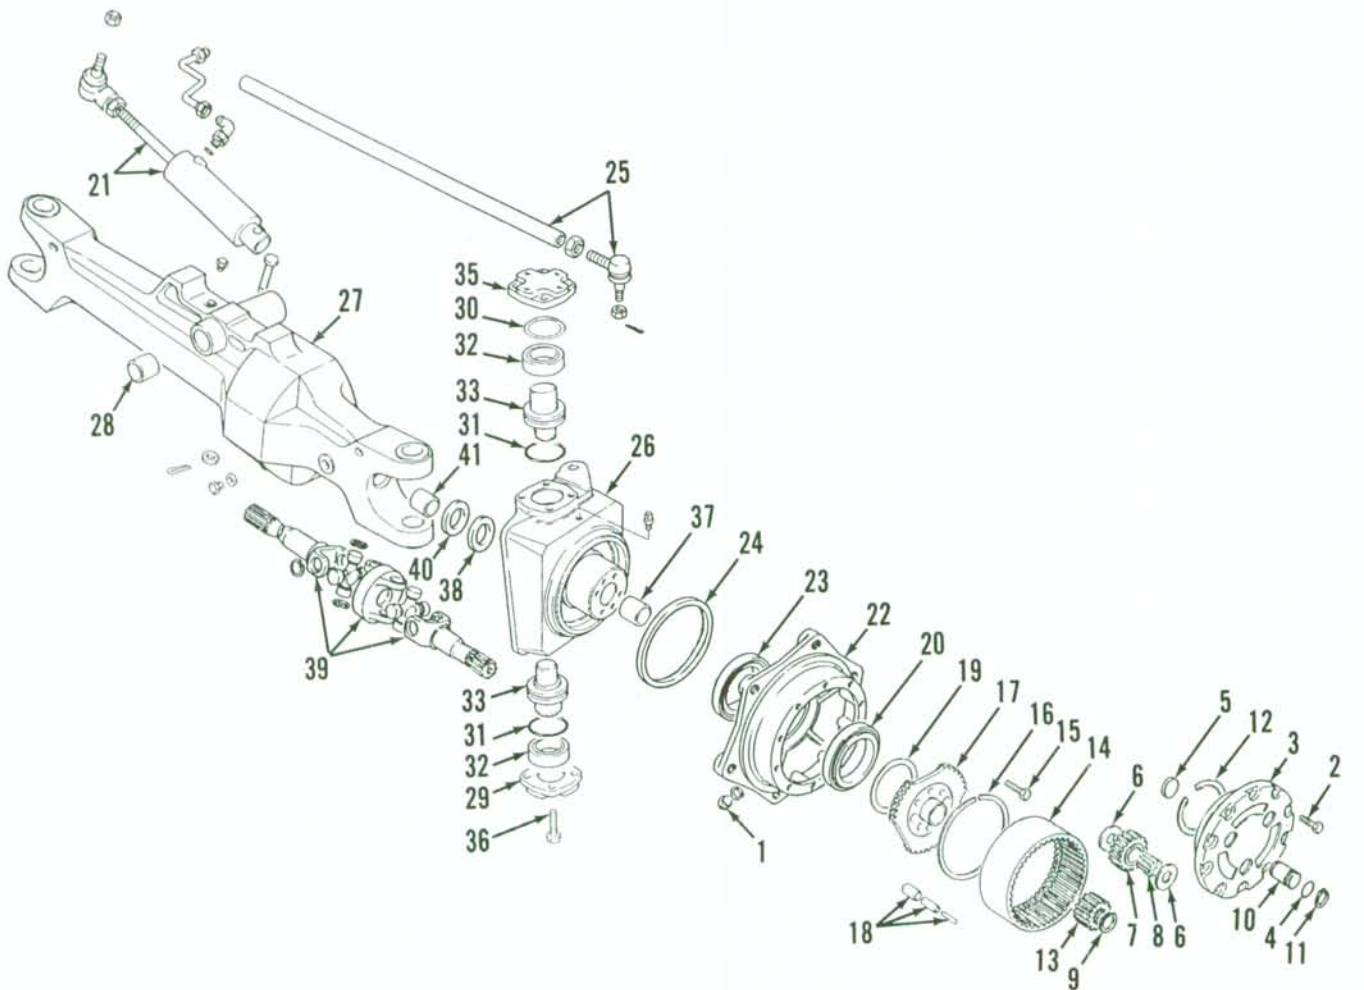
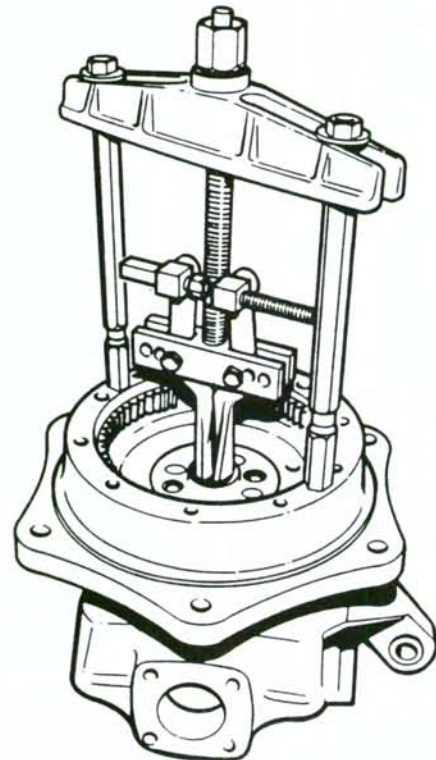
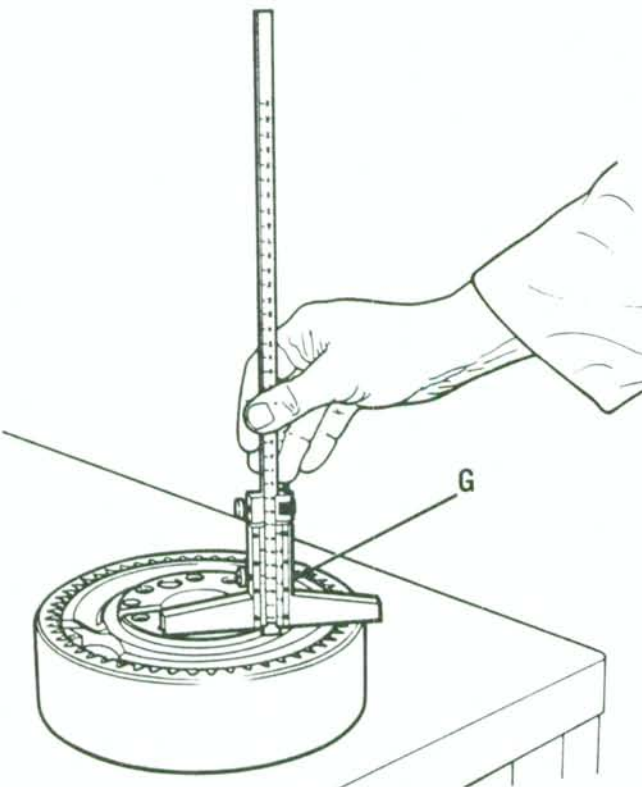

Fig. 16—Exploded view of front-wheel-drive steering knuckle and planetary assembly.
Fig. 17—View showing bearing puller attached for pulling the ring gear from steering knuckle. Refer to text.
Fig. 19—Measure standout of ring gear hub as shown when selecting shims (19—Fig. 16). Refer to text.
removing the steering knuckle housing (26—Fig. 16). However, if seal (24) or bearings (20 and 23) are to be serviced, hub (22) and knuckle housing (26) must first be removed as outlined in paragraph 12. Support front axle housing and remove front wheel. Rotate hub (22) until drain plug (1), is down, then remove plug and drain oil from hub assembly. Remove screws (2) and lift off planetary carrier (3). Remove snap ring (12), then bump shafts (10) from housing bores. Keep each planet assembly, consisting of shaft (10), gear (7), bearings (8) and thrust washers (6), separate so that they can be reinstalled as a set. The sun gear (13) can be removed after removing snap ring (9).
12. R&R AND OVERHAUL. To remove either steering knuckle housing, first remove planetary as outlined in paragraph 11. Remove snap ring (9—Fig. 16) and sun gear (13). Disconnect steering cylinder (21) from right side steering knuckle arm, and disconnect track rod (25) from steering knuckle arms on both sides. Unbolt and remove upper and lower retainers (29 and 35) and shims (30). Measure and note thickness and number of shims (30) under each retainer for aid in reassembly. Carefully remove the bearing cups for upper and lower bearings (32). Use a suitable puller such as MF 451A or equivalent to pull upper and lower pivot pins (33). Carefully remove steering knuckle housing (26) and wheel hub assembly (22) from axle center housing (27), leaving axle shafts (39) with center housing.
To disassemble the wheel hub and steering knuckle, remove the six cap screws (15). Attach an internal bearing puller as shown in Fig. 17 and pull ring gear hub (17—Fig. 16) and ring gear (14) from pins (18). Be careful not to lose or damage shims (19). If puller is not available, it may be possible to use a punch through hole for plug (1) to carefully drive hub and ring gear from pins. Solid pins are used on later models in place of the three split pins (18). Remove pins only if necessary. Bump hub (22) and bearings (20 and 23) from steering knuckle (26). Remove cups for bearings (20 and 23) and seal (24) from hub. If necessary, remove inner bearing cone from knuckle housing.
If removed, install new cone for inner bearing (23) on knuckle housing (26). Install hub (22) and cone for outer bearing (20) onto knuckle housing. It may be necessary to heat bearing cones before installing. Install two screws with washers in opposing holes as shown in Fig. 18 to hold bearing (20—Fig. 16) in position while measuring standout of bearing race. Be sure that bearings are fully seated, then measure distance from end of steering knuckle hub and outer surface of outer bearing inner race. Measure standout of ring gear hub from the bearing contact surface to the steering knuckle hub contacting surface as shown in Fig. 19. Subtract measurement of ring gear hub (Fig. 19) from the bearing standout (Fig. 18), then add the desired bearing preload, 0.05 mm (0.002 inch) to determine the correct thickness of shims to install.
Please note that measurements above are only examples to indicate the method of determining the correct thickness of shims to install. Selecting and installing the proper thickness of shims (19—Fig. 16) for each combination of parts will provide bearings (20 and 23) with correct, 0.05 mm (0.002 inch), preload.
To remove the differential assembly from front axle, refer to paragraph 9 and remove the drive shaft, then paragraph 12 and remove steering knuckles and axle shaft assemblies (39—Fig. 16) from both sides. Unbolt and remove the differential housing from the axle center housing. Some mechanics prefer to remove the front axle from tractor as outlined in paragraph 10 before removing steering knuckles and axle shafts.
Before reinstalling differential, clean mating surface of differential housing (1—Fig. 21) and axle center housing (27—Fig. 16), then coat mating surface with "Loctite 515 Instant Gasket." Lubricate screws attaching differential to axle housing, install differential assembly and tighten retaining screws to 96-118 N·m (71-87 ft.-lbs.) torque. Install drive shaft coupling on pinion shaft, coat threads of center retaining screw with "Loctite 270," then tighten center screw to 60 N·m (44 ft.-lbs.) torque. Complete assembly by reversing the removal procedure. Refer to paragraph 9 for installing drive shaft.